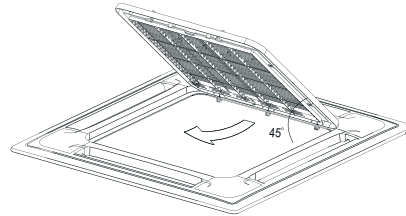

Fig.5-28
- Draw the grill up to an angle of about 45°, and remove it. (Refer to Fig.5-28)